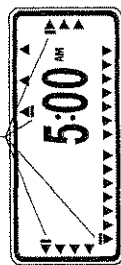

FIGURE 4: LCD Display with Cursors Showing
- A cursor will appear below the arrow for the year, month, and date when programming [See Figure 4].